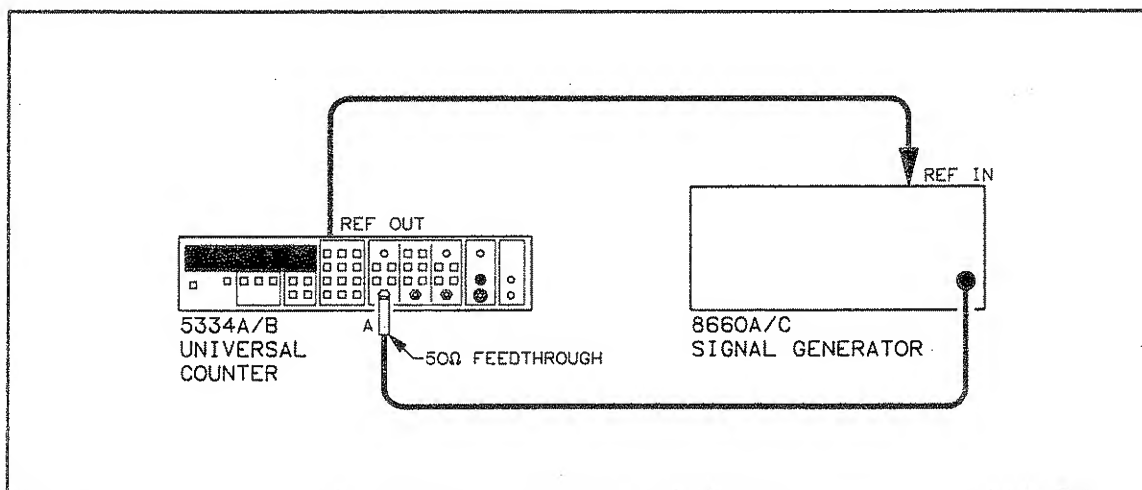

Figure 4-9. Pulse Width A Test Setup
3. Connect the signal generator output to the HP 5334A/B Input A using a 50 Ohm feedthrough connector as shown in *Figure 4-9*.